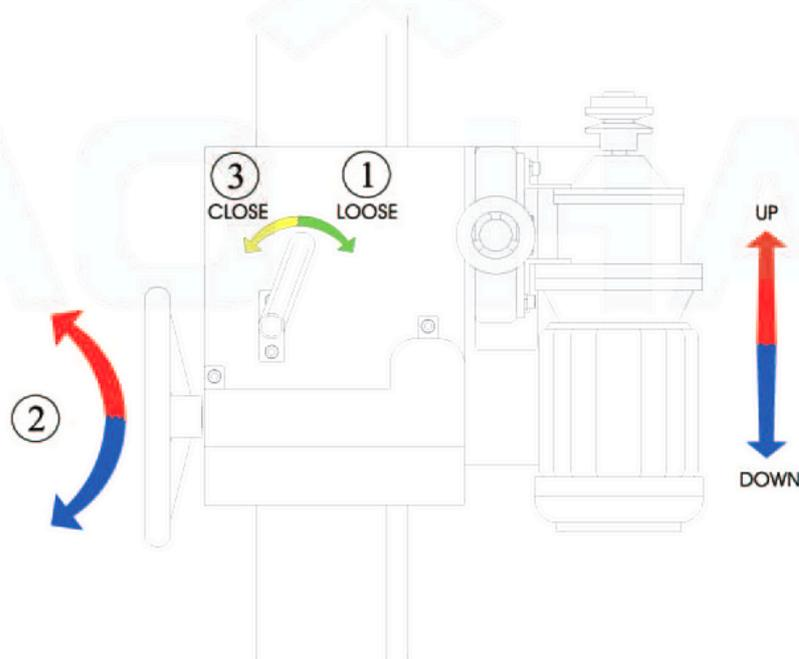

Fig.2a
- 1.3 After arranging to fix position, tighten the fixing handle (along the direction of yellow arrow). See **Fig.2a**.